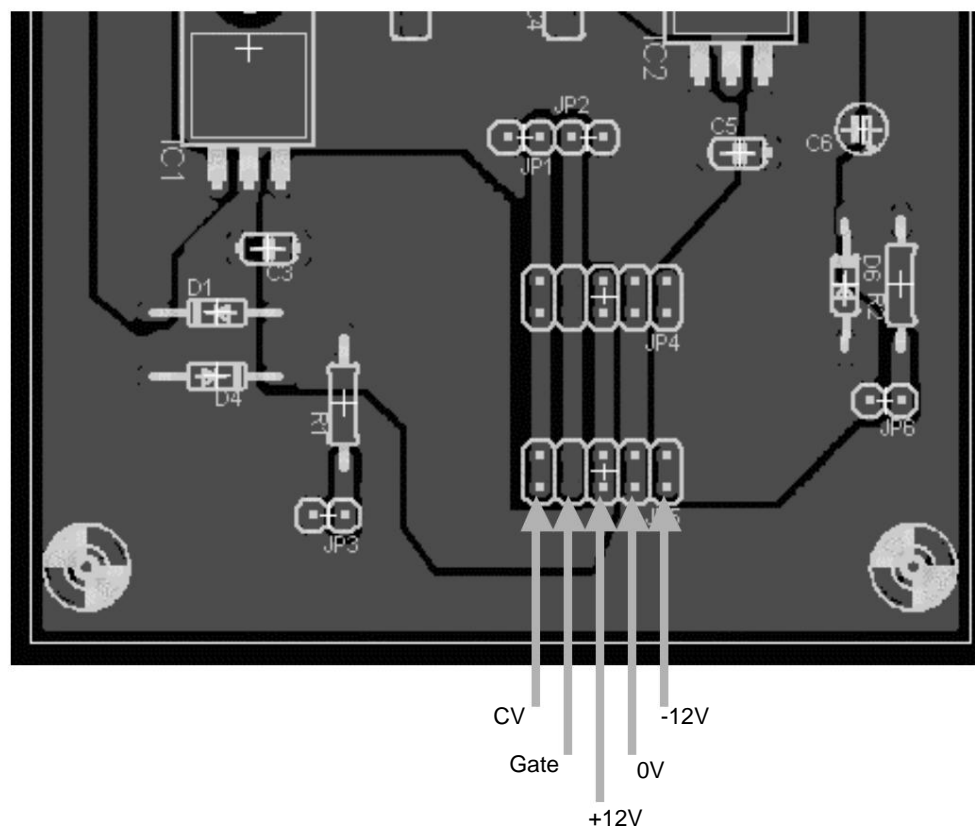

Figure 25: Output confirmation location
2. With reference to **Fig. 25** , apply a tester to each pin of the output box header and **check that the voltage is correctly supplied to the + 12V and -12V terminals.**